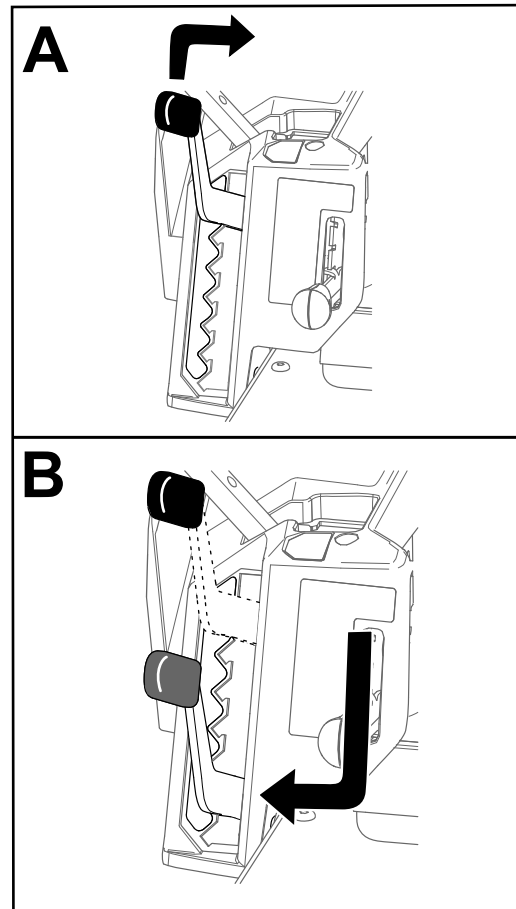

Figure 26
**Note:** The transport position is the highest height-of-cut position or cutting height at 114 mm (4-1/2 inches) as shown in Figure 26.
You can adjust the height of cut from 38 to 114 mm (1-1/2 to 4-1/2 inches) in 13 mm (1/2 inch) increments. The height of cut is controlled by the lever located to the right of the operating position (Figure 26).